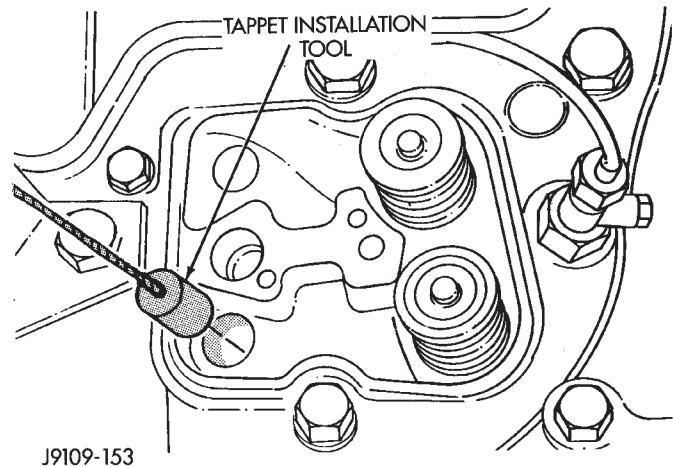

Fig. 73 Tappet Installation Tool
- (1) Insert the trough the full length of the cam bore.
- (2) Feed the installation tool down the tappet bore and into the trough (Fig. 73).
- (3) Feed the installation tool cord through the cam bores. Carefully pull the trough and installation tool